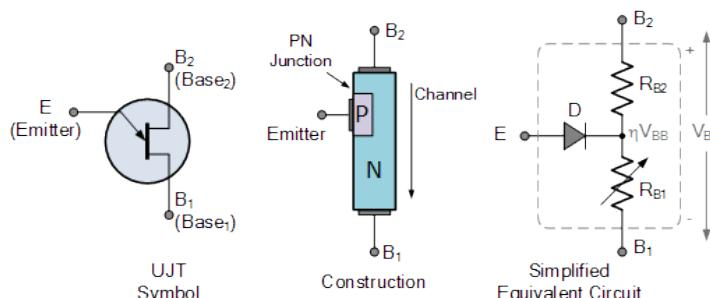

Fig. 10.24
Unijunction transistor is constructed from separate P-type and N-type semiconductor materials forming a single PN-junction within the main conducting N-type channel of the device. The channel has two outer connections marked as Base 2 (B_2) and Base 1 (B_1). The third connection, marked as the Emitter (E) is located along the channel. The emitter terminal is represented by an arrow pointing from the P-type emitter to the N-type base. Fig. 10.24 shows the symbol, construction, and equivalent circuit of the UJT.